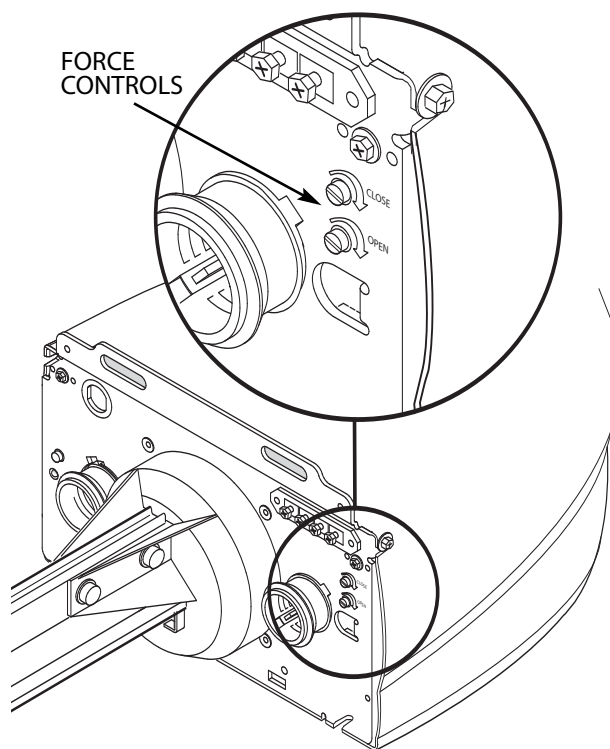

Figure 9 Making Force Adjustments
A Setting Close Limit Switch (**Figure 9**):
- On front panel of Power Head find adjusting screw marked "CLOSE" (**Figure 9**).
- On front panel of Power Head find adjusting screw marked "OPEN" (**Figure 9**).